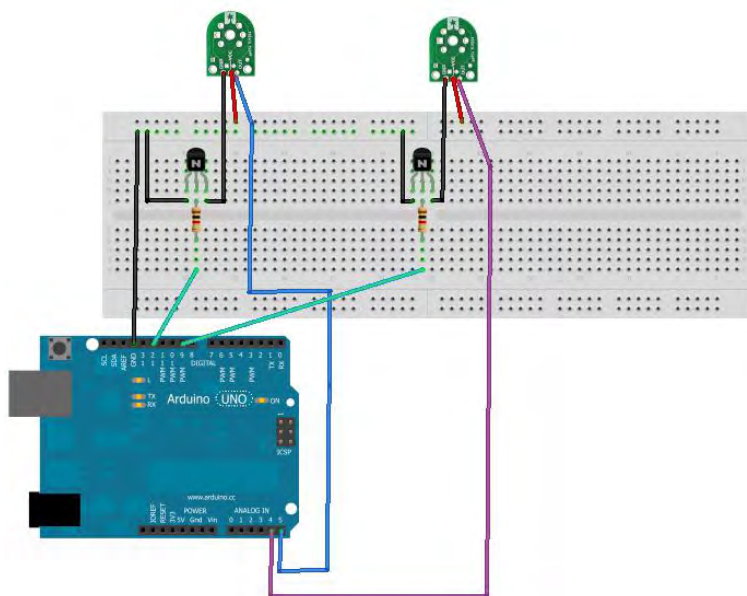

Figure 2-8. *Step five.*
5. Connect the data lines from the sensors to Arduino analog ports 4 and 5 (Figure 2-8).